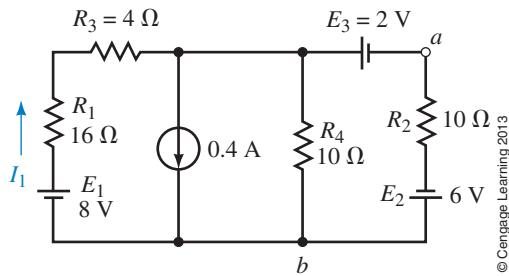

FIGURE 8-80
26. Use mesh analysis for the circuit of Figure 8-80 to solve for the current I_1 .